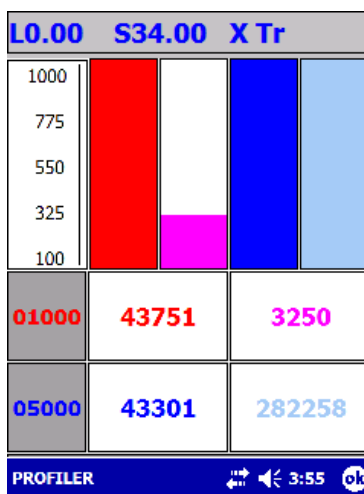

Figure 61: Bar Graph with Alphanumeric display.
- Figure 61 illustrates a bar graph display with alphanumeric display. As with the line graph display, the colors selected for the components displayed in the bar graph display correspond to the colors of the components in the alphanumeric display.